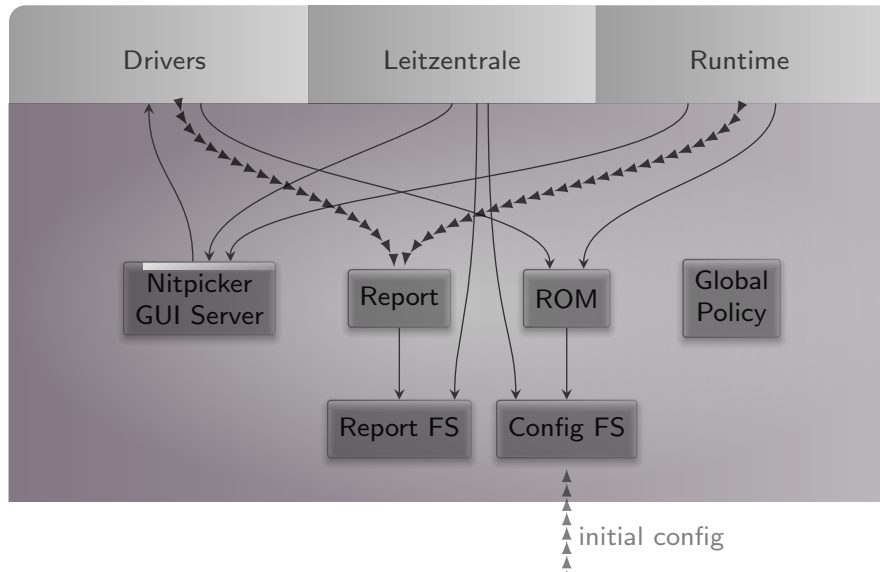

Figure 14: Detailed look at the static part of the system
**Static system** The first - static - part of the system is baked into the boot image. It contains components that must be shared by the upper - dynamic - parts and defines the relationships between the upper parts via a static policy that is fixed by the creator of the boot image (Figure 14).